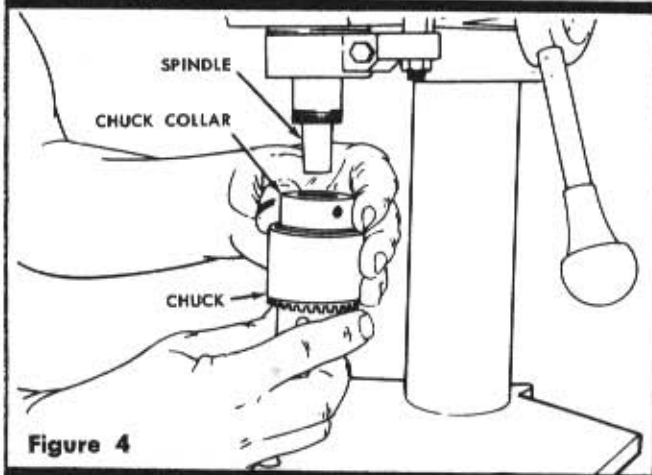
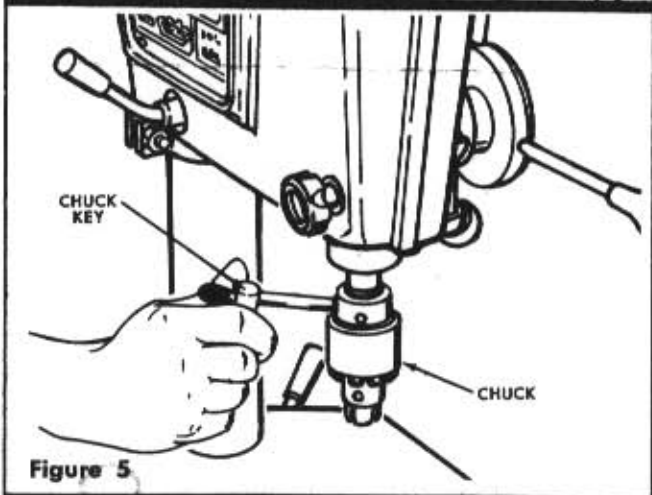

Figure 4
Figure 5
2. Apply a light film of oil on spindle taper and place chuck on end of spindle (See figure 4). Screw the chuck collar onto the threaded portion on end of spindle. Hold spindle pulley with one hand to prevent spindle from rotating and tighten chuck collar with drill chuck key. (See figure 5).
When removal of the chuck is required, make sure the power cord is disconnected. Prevent rotation of spindle by holding the spindle pulley, and loosen chuck locking collar with the end of the chuck key (see figure 5). Continued rotation of the collar will force the chuck off the tapered spindle. Do not attempt to drive or wedge the chuck off, as this could damage the spindle, spindle bearing or both.